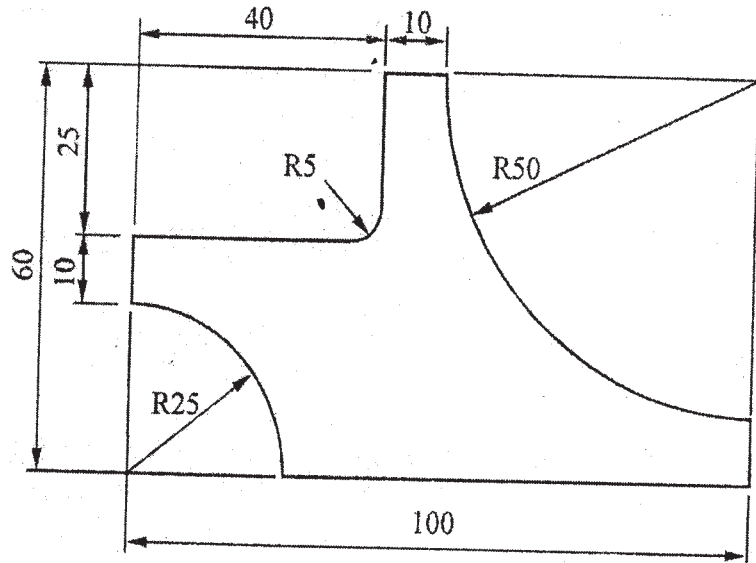
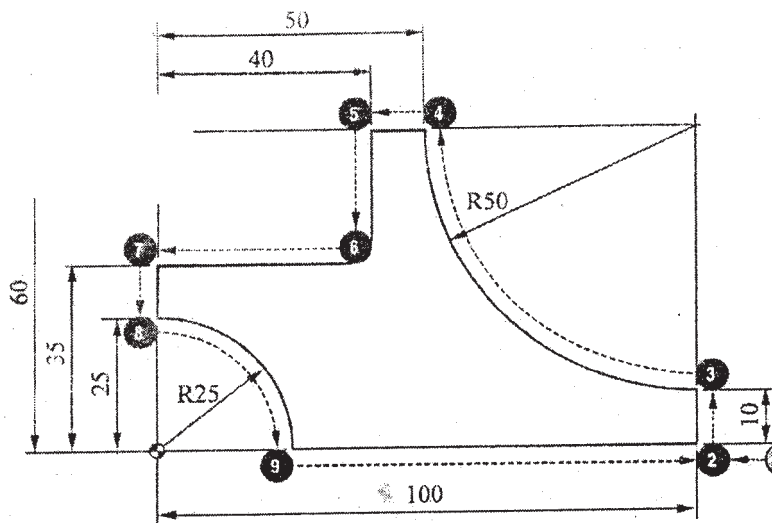

Fig. 4
Fig. 5
- Q5) a) Write a manual part program for the component shown in Fig.4 and the tool path is shown in Fig.5. Assume the raw product as cast and the thickness of casting is 10 mm. [12]